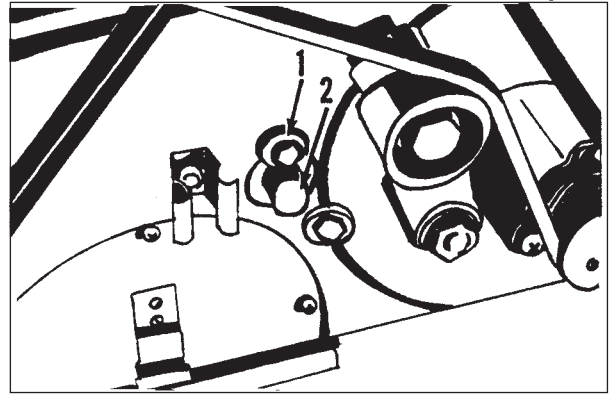

Figure 7
2. Loosen the eccentric lock screw. Using the 7/16" wrench, turn the eccentric lock screw (1) counterclockwise. See figure 7.
3. To raise or lower the drum, turn the eccentric (2). See figure 7.